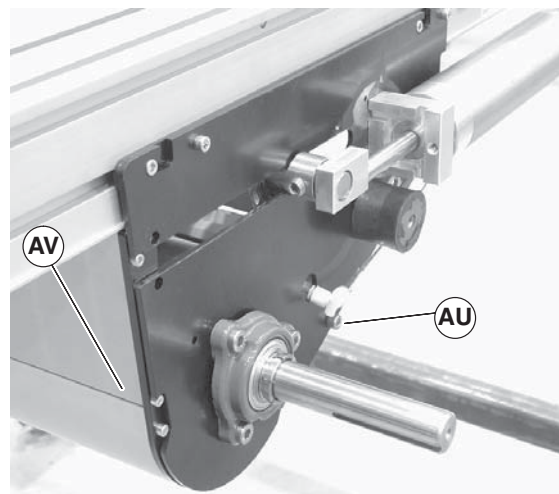
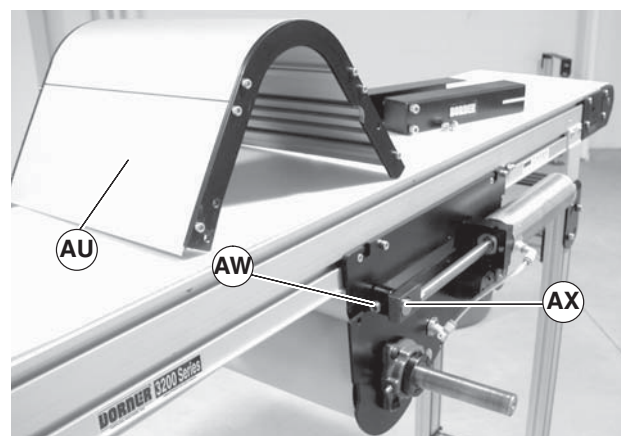
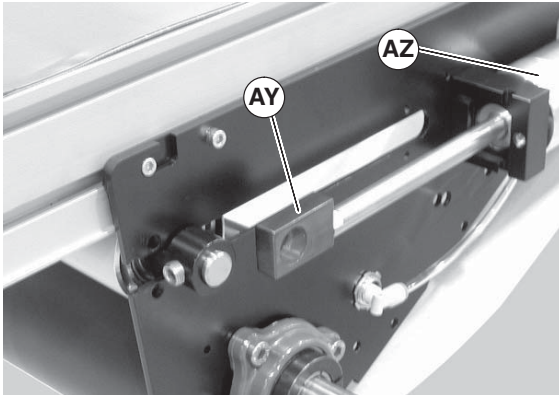

Figure 23
Figure 24
Figure 25
6. Temporarily support the tensioning roller guard (Figure 23, item AV). Remove screws (Figure 23, item AU) on both sides of center drive and remove tensioning roller guard (Figure 23, item AV) and (Figure 24, item AV).
7. Loosen tensioning roller set screws (Figure 24, item AW).
8. Push shaft (Figure 24, item AX) through block, and slide block (Figure 25, item AY) towards air cylinder (AZ).